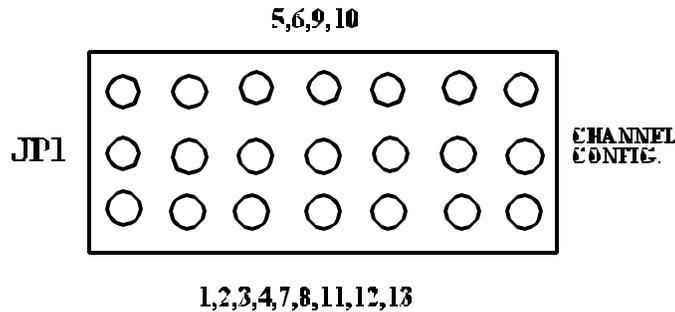

Figure 1. ASM Card Jumper Block
6. On both the operational and spare ASC, set the backup channel configuration using the seven jumpers on JP1. Using all seven jumpers, move the jumpers to the side of the block that lists the number of output channels for your site configuration, the center row of pins being common. Example: Using **Figure 1** as a reference, if your site configuration had 5, 6, 9, or 10 channels each jumper would connect from the center row of pins to the top row of pins. If your site configuration had 1, 2, 3, 4, 7, 8, 11, 12, or 13 channels, each jumper would connect from the center row of pins to the bottom row of pins.